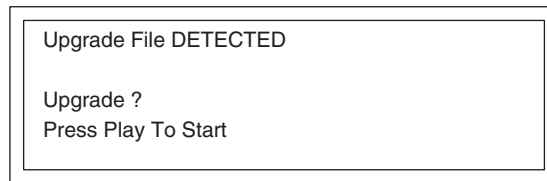

Fig. 1
4. "Upgrade?" is displayed on the TV monitor screen. (Fig. 1)
5. Press the "PLAY" key of the DVR-700, then writing of the firmware is started. (Fig. 1)